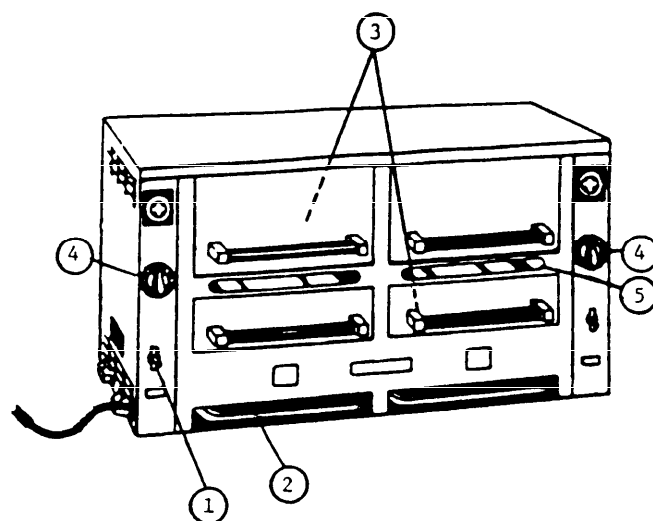

Figure 10
5.8.2 Major Broiler Components. Refer to Figure 10 for a generic list of major broiler components segregated into gas and electric heating sources. (Figure 10 is an electric broiler.)